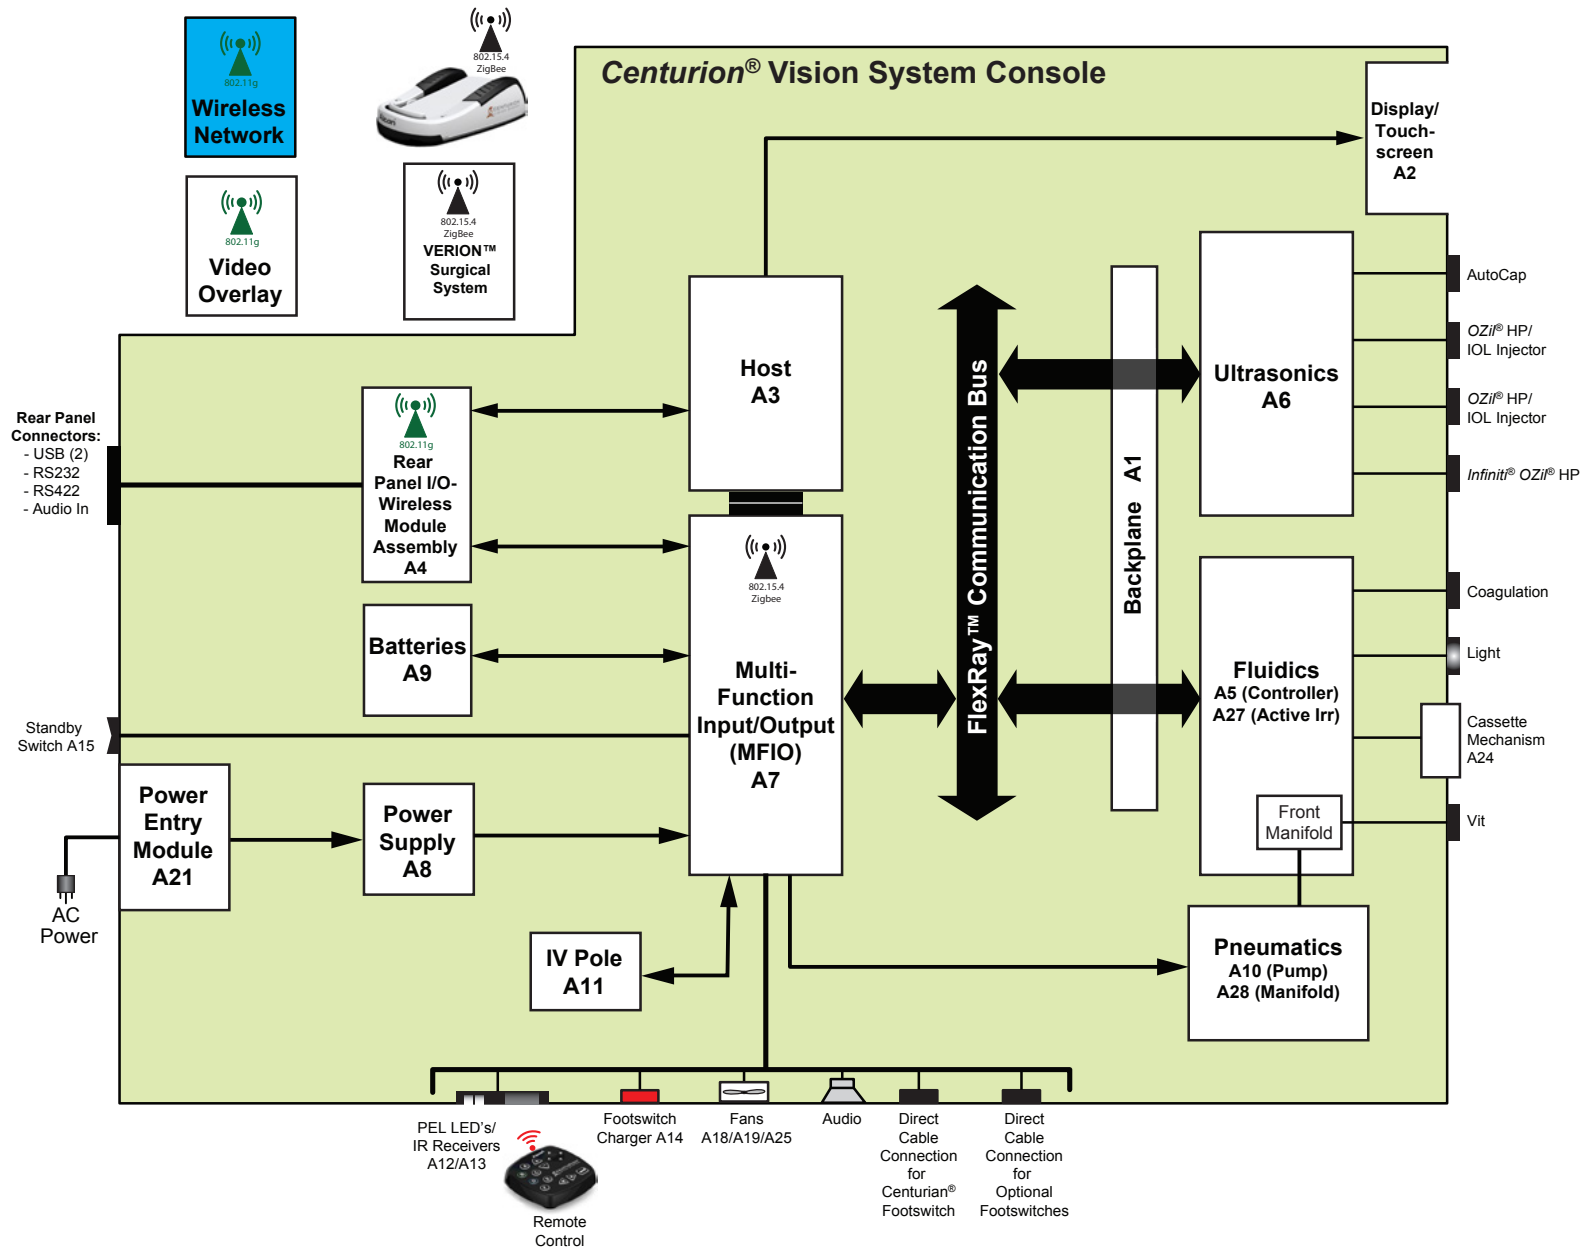

Figure 2-1 System Block Diagram
- 1.1 The *Centurion** Vision System is a software-driven electromechanical device designed to delivery state-of-the-art performance for all aspects of cataract lens extraction. The block diagram shown in *Figure 2-1* shows a simplified view of the system. A general description of the diagram follows.
- 1.4.1 The MFIO PCBA functions as a system backplane, distributes the main 24 VDC supply and FlexRay** communication buses, as well as providing the electronics and software needed to control or interface with a number of modules shown in *Figure 2-1* and listed below: